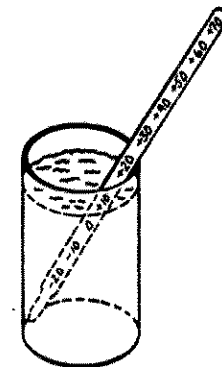

Figure 4
- In refrigerator, place a glass of water holding thermometer in center of compartment for 5 to 8 hours. See Figure 4. If temperature is not between 38°F and 40°F (3°C to 4°C), adjust control one number at a time and check again after 5 to 8 hours.